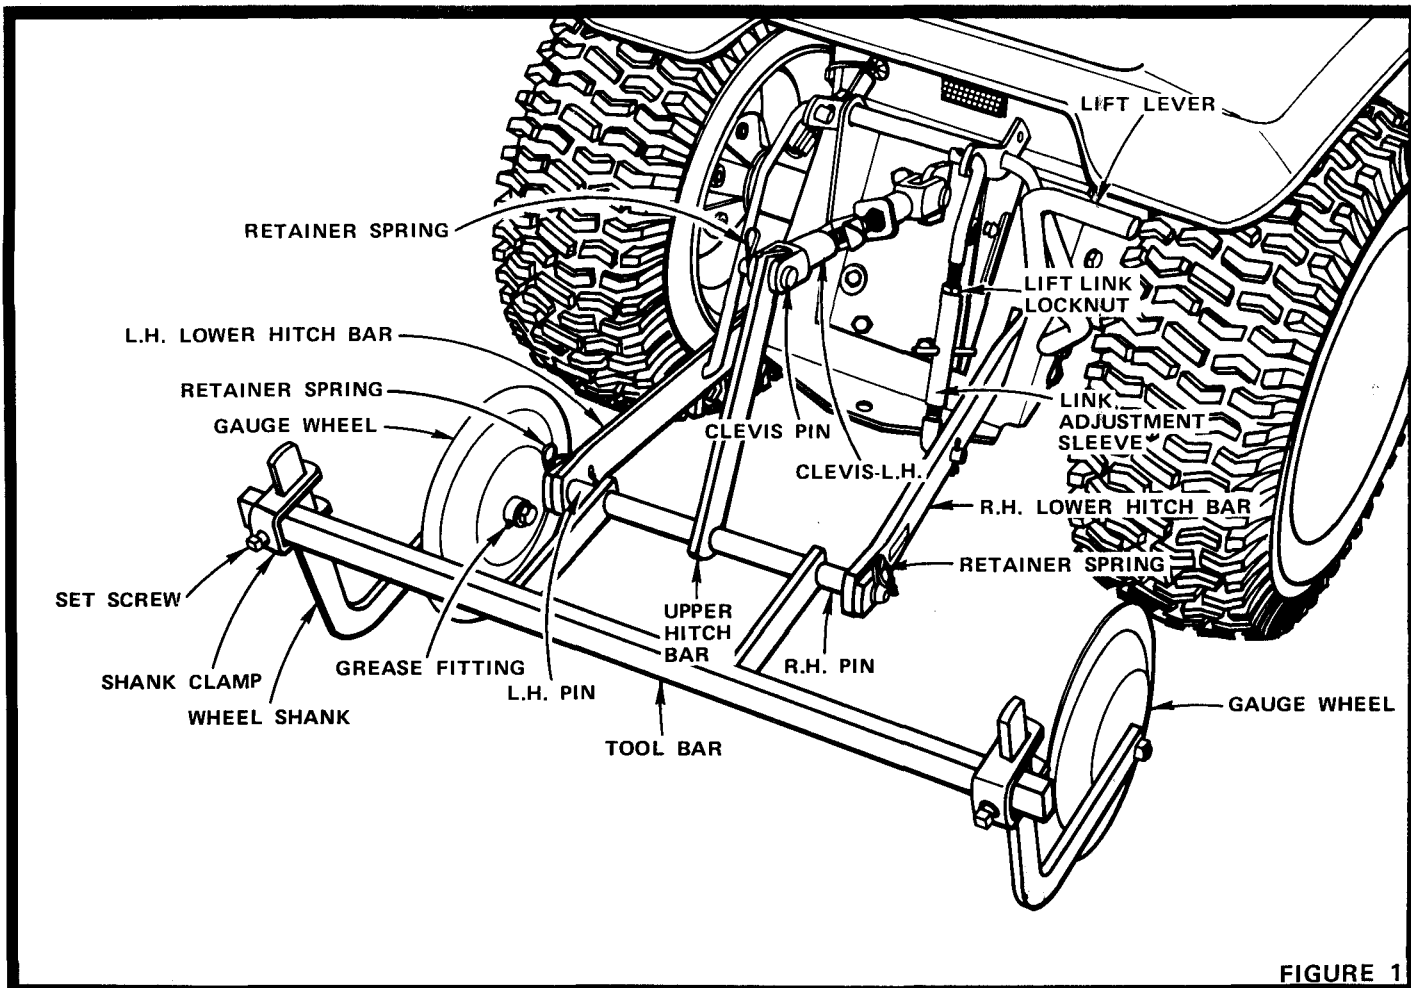

FIGURE 1
3. Slip L.H. Lower Hitch Bar over L.H. pin of Cultivator Frame (Tool Bar). Secure with Retainer Spring (Fig. 1).